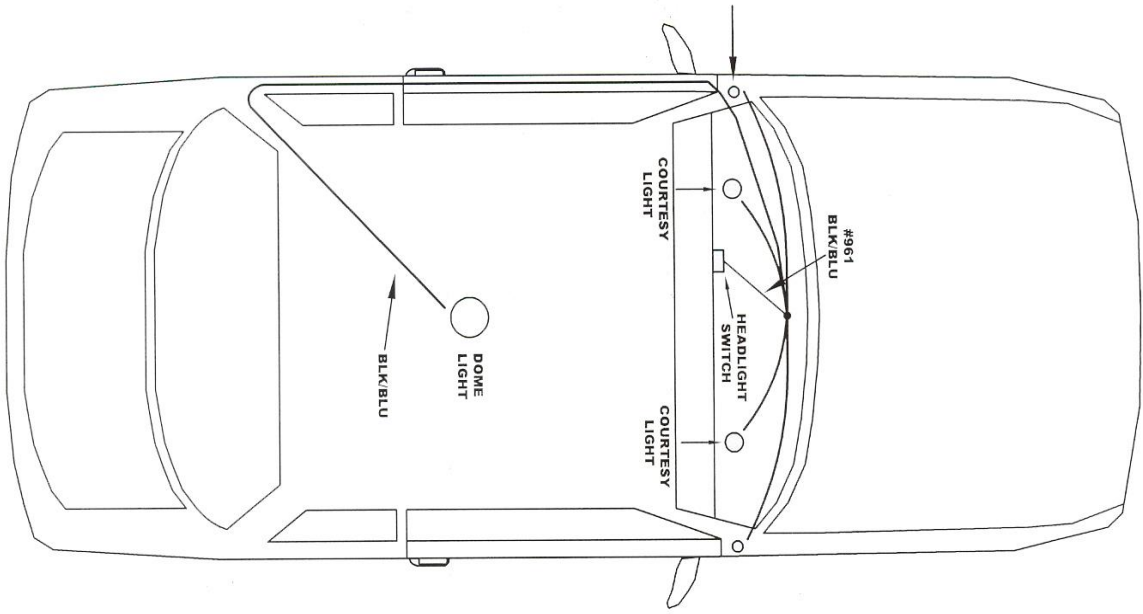

Figure 8-2 Interior Lighting
8.2.1 Interior Lights are switched through the door switches and the dash panel light switch. These switches apply power to the circuit. See **Figure 8-2**.